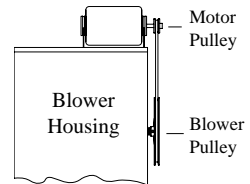

Fig. 2
- **Install pulley.** Install the adjustable motor pulley so that it aligns with the blower drive pulley (see Fig. 2) and tighten set screw. See page 3 for instructions on adjusting pulley.